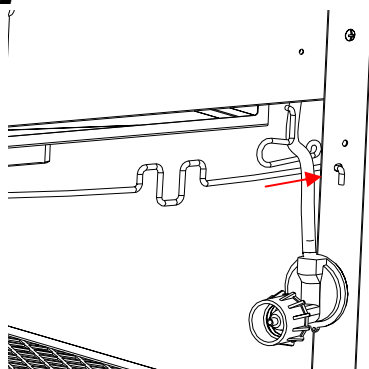
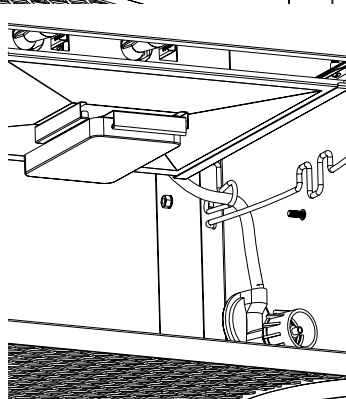

Fig. 22A
Fig. 22B
Slide the Wire Hanger onto the HVR hose as shown in Fig. 22A. Attach the loop end of the Hanger to the hole in the Left Front Leg as shown with (1) M6*15 Bolt and (1) M6 KEPS Nut, see Fig. 22B.